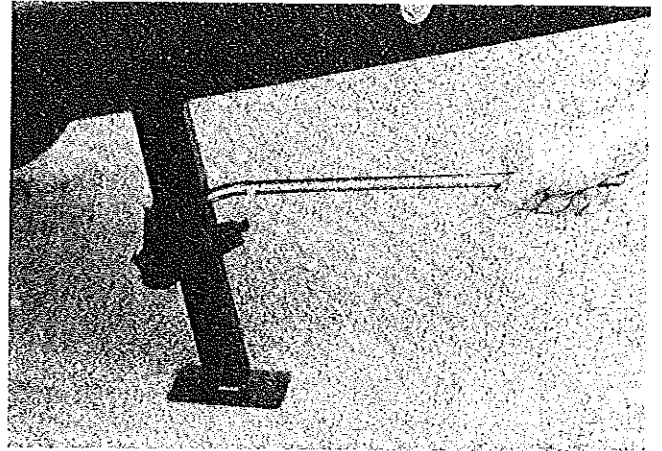

FIGURE 11
15. Remove the stabilizer jack handle from the recommended storage location within the access door. Making sure the handle is inserted through the rear hole, apply downward pressure to extend the inner legs of the stabilizer jacks to stabilize the trailer. See Figure 11. Remove jack handle and stow.